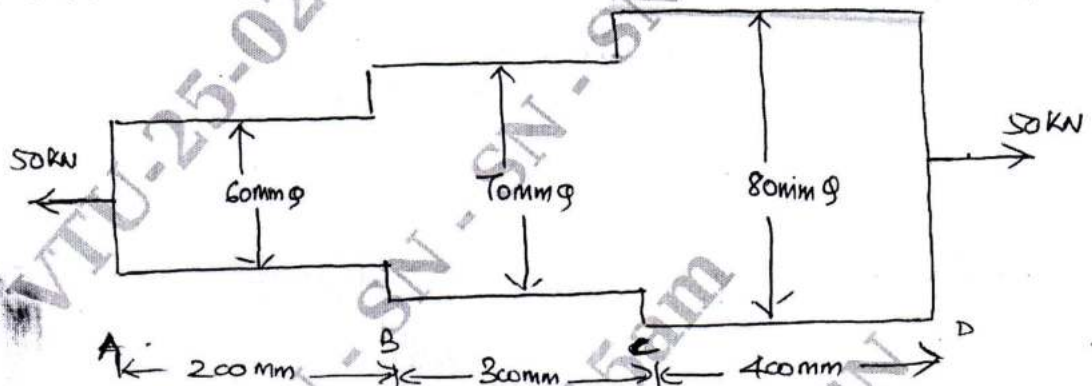

Fig. Q1 (b)
b. Find the total elongation in the bar and stresses induced in each portion of the bar. Refer Fig. Q1 (b). The Young's modulus of material is $2.0 \times 10^5 \text{ N/mm}^2$. (10 Marks)